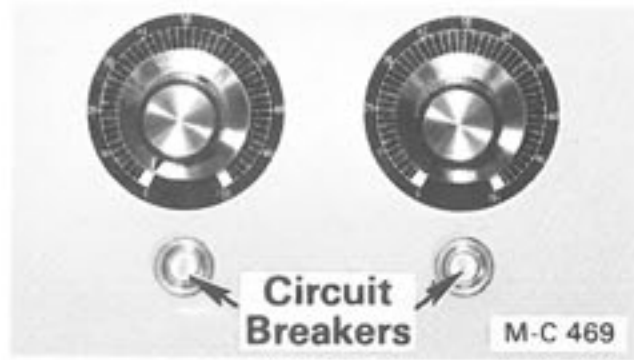

Figure 24A
2. SCR Drive 8 amp. circuit breakers on the SCR control box tripped, see Figure 24A. Push in to reset.